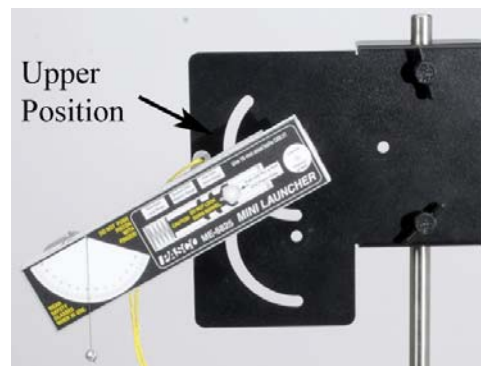

Figure 16: Upper Position
1. Mount the launcher on the bracket in the upper position (see Fig. 16). Slide the launcher all the way back so that it pivots about the launch position of the ball.